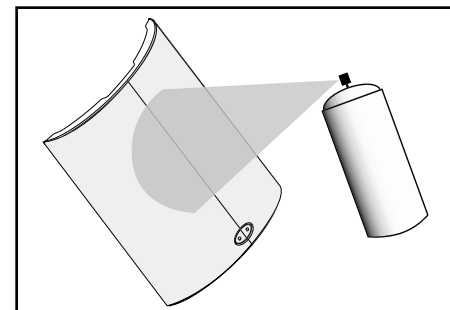

FIGURE 8
2. Using spray paint, spray two thin coats of finish color with no primer [figure 8]. If you're using a compressor and spray gun, use the finest, most diffuse setting. Be careful not to fill the holes in the grille with paint.